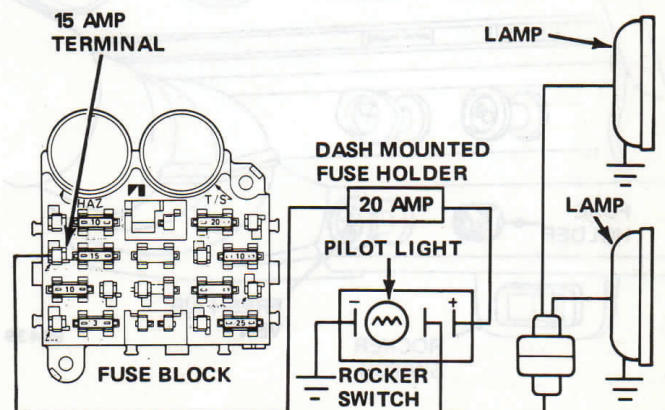

Fig. 11-6 Wiring Diagram for Lamps
(9) Pivot windshield to down position and route 95-inch length of wire through hole for wiper motor wire harness, to underside of dash and to switch. Cut off excess wire, crimp on a spade terminal and connect to unmarked switch terminal.
(10) Cut a 7-inch length of wire, crimp on a spade terminal at both ends. Connect one end to side terminal on fuse holder and other end to positive (+) switch terminal.
(11) Cut a 12-inch length of wire and crimp on a fuse block connector on one end, a spade terminal on other end. Connect spade terminal to center terminal of fuse holder and fuse block connector to fuse block (fig. 11-6).
(12) Secure all wires with nylon cable ties.
(13) Refer to Lamp Aiming Procedures at end of this section.
(7) Cut a 7-inch length of wire. Crimp a spade terminal on each end. Connect one end to side terminal on fuse holder and other end to positive (+) switch terminal.
(8) Cut a 12-inch length of wire. Crimp on fuse block connector on one end and a spade terminal on other end. Connect spade terminal to center terminal on fuse holder and fuse block connector to fuse block (fig. 11-6).
(9) Secure all wires with nylon cable ties.
(10) Refer to Lamp Aiming Procedures at end of this section.
(6) Cut a 12-inch length of wire and crimp a spade terminal on each end. Connect one end to side terminal on fuse holder and other end to positive (+) terminal on switch.
(7) Cut a 6-inch length of wire. Crimp a spade terminal on one end and a 3/16-inch loop terminal on opposite end. Connect spade terminal to negative (-) terminal on switch. Using grounded trim attaching screw under steering column, attach loop terminal to underside of dash.
(8) Cut an 18-inch length of wire. Crimp on a spade terminal on one end and a fuse block connector on other end. Connect spade terminal to center terminal on fuse holder and connect fuse block connector to fuse block (fig. 11-6).
(3) Using bracket for rocker switch as a guide, mark and drill two 5/32-inch holes in underside of instrument panel directly below fuse holder. Attach bracket with two sheet metal screws. Snap in switch.
(4) Route a long, stiff wire (e.g., connected coat hangers), from underside of pick-up bed, up through left front stake receptical into bottom of roll bar. Continue with routing until end of wire is visible through 1/2-inch hole adjacent to right-hand lamp. Snag and pull out 2 inches of stiff wire. Securely attach a 25-foot length of wire to end of stiff wire. Pull 25-foot wire through roll bar until approximately 3 inches remain at top of roll bar.
(5) Crimp a round terminal on upper end of wire and connect to right-hand lamp. Install strain relief bushing around wire and in 1/2-inch hole.
(6) Snag wire through 1/2-inch hole adjacent to left-hand lamp and pull out a workable loop. Cut loop and a 6-inch length of wire. Crimp a round terminal on one end of wire and connect to left-hand lamp.
(7) Using a 3-way butt connector, crimp together all three remaining wire ends. Insert connector into 1/2-inch hole. Install strain relief bushing around wire and in 1/2-inch hole.
(8) Route other end of wire along inner side of C channel frame into engine compartment, past brake servo, through rubber grommet in instrument panel and into cab.
(9) Cut off any excess wire, crimp on spade terminal and connect to unmarked switch terminal.
(10) Cut a 12-inch length of wire and crimp a spade terminal on each end. Connect one terminal to side terminal on fuse holder and other to positive (+) switch terminal.
(11) Cut a 6-inch length of wire and crimp a spade terminal on one end and 3/16-inch loop terminal on opposite end. Connect spade terminal to negative (-) switch terminal. Using grounded trim attaching screw under steering column, attach loop terminal to underside of instrument panel.
(12) Cut an 18-inch length of wire. Crimp on a fuse block terminal on one end and a spade terminal on other end. Connect spade terminal to center terminal on fuse holder and fuse block terminal to fuse block (fig. 11-6).
(13) Secure all wires with nylon cable ties.
(14) Refer to Lamp Aiming Procedures at end of this section.
Refer to Lamp Circuit Wiring Diagram depicted in figure 11-6.